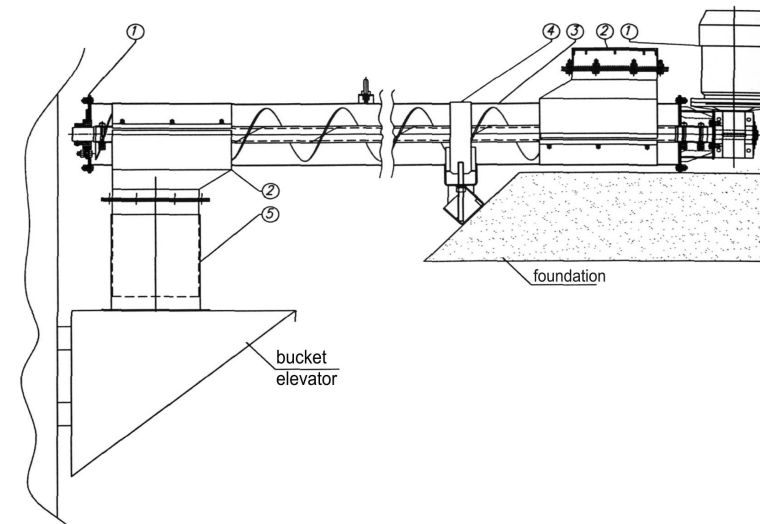

Fig. 16: PS220 – version with RURATEL200-0.4
- c) The use of the telescopic pipe (see Fig. 16), 5, RURATEL200-0.4, makes possible to adapt the screw conveyor to another equipment, such as bucket elevators, silos, etc.